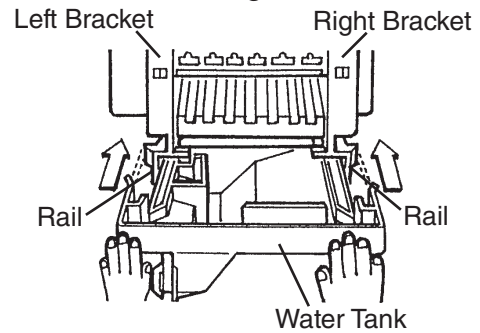

**Fig. 44**
- 12) Slide in the spray assembly along the rails on the left and right brackets. See Fig. 44. Connect the discharge tube securely to the spray assembly; a loose fitting may cause a water leak.